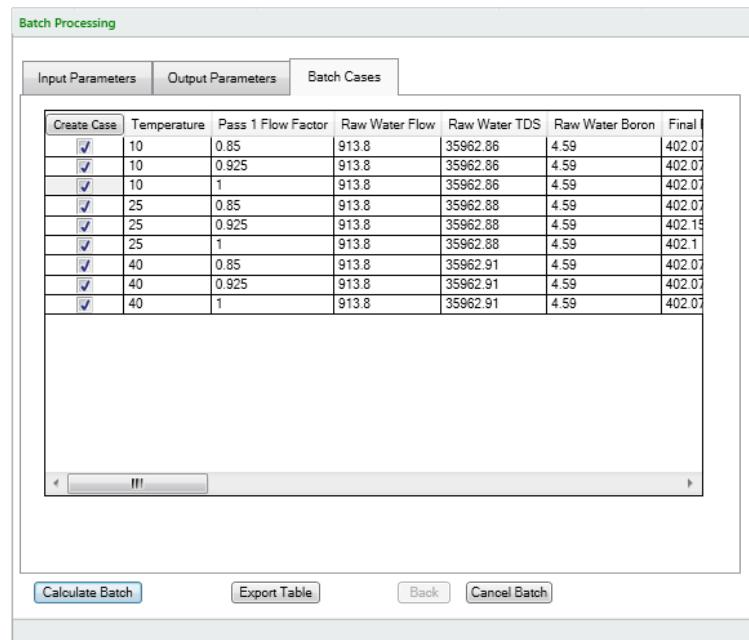

Figure 148. Running WAVE in Batch Mode:Final output
10. Click "Calculate Batch". WAVE would start to populate the empty fields (selected in the Output Parameters tab) with calculation results (Figure 148).